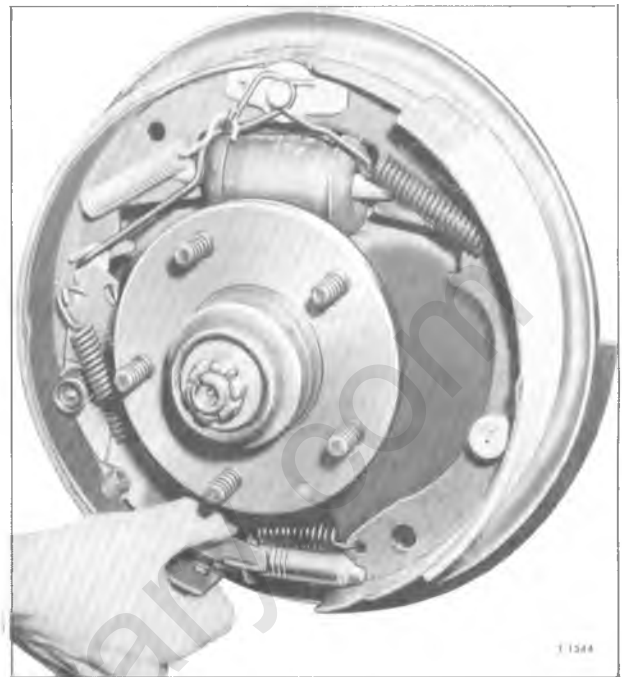

Figure 32—Checking Operation of Actuating Lever
12. Check operation of self-adjusting mechanism by hand operating. If there is any binding, locate trouble and correct. Refer to figure 32.